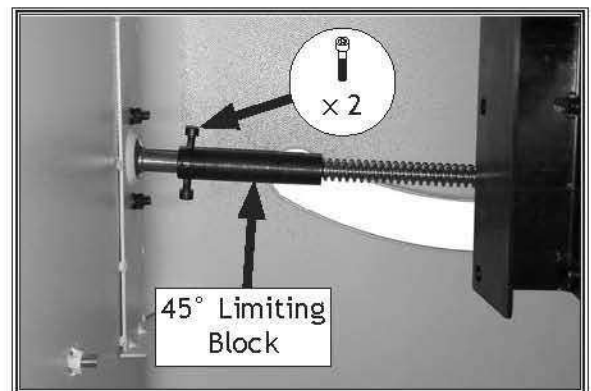

Figure 103. Location of 45° limiting block.
5. Loosen (2) M5-.8 × 10 cap screws in 45° limiting block (see **Figure 103**).